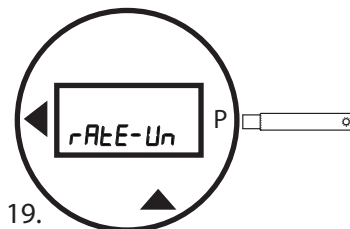

Figure 19.
- Pass the wand over the **P** to enter the lock code. The menu selection **rAtE-Un** will appear (Figure 19). This is the first item in the first menu level.